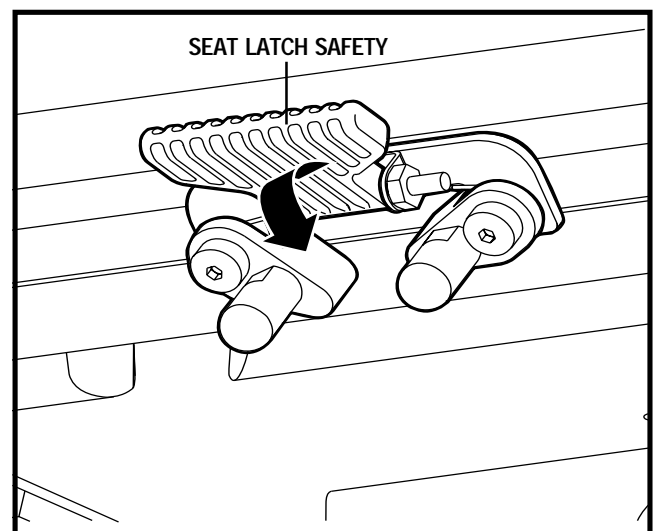

Figure 11. Seat Latch Safety
4. Flip the seat latch safety down. See figure 11.